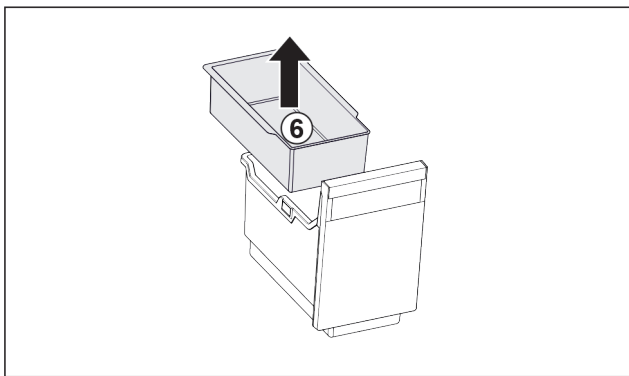

Fig. 96
- ▶ Remove the hang-on tray Fig. 96 (6).